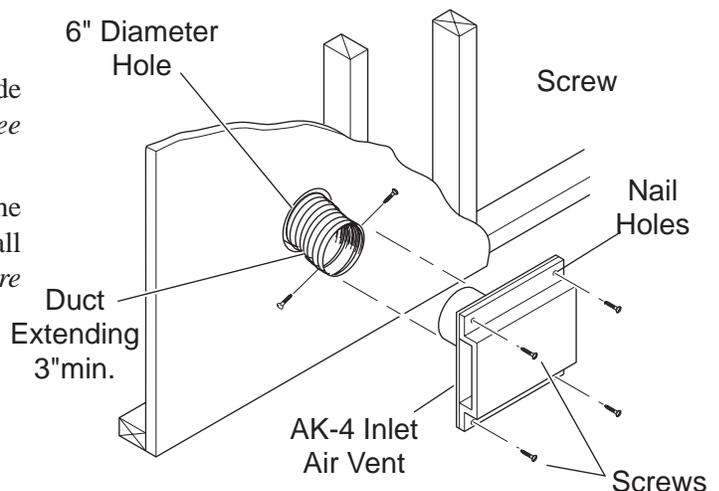

Figure 28 - Combustion Air Assembly for Model No. AK-4
5. Cut a 6-inch diameter opening for model AK-4 in the outside wall covering where the outside vent is to be located. *See Figure 28.*